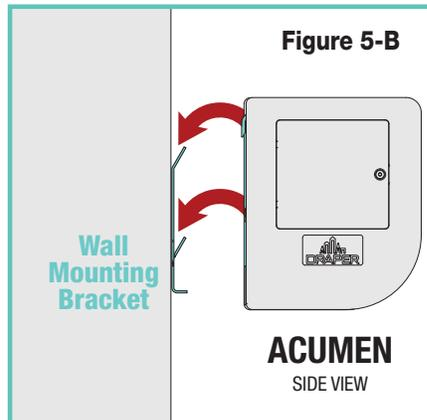
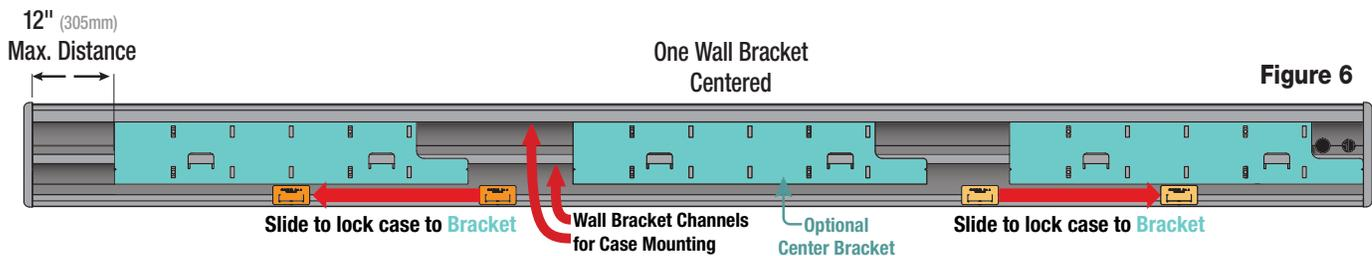

Figure 5-B
Figure 6
4. Holding the case by the endcaps, lift it up and over the cleats on the **mounting brackets** (see Fig. 5). **Wall Bracket Mounting Channels** are shown in Fig. 6 below.
5. Once the case is settled on the mounting brackets, slide the **Bracket Locks** to the center of each **mounting bracket** (see Fig. 6) and secure set screw on the lock.